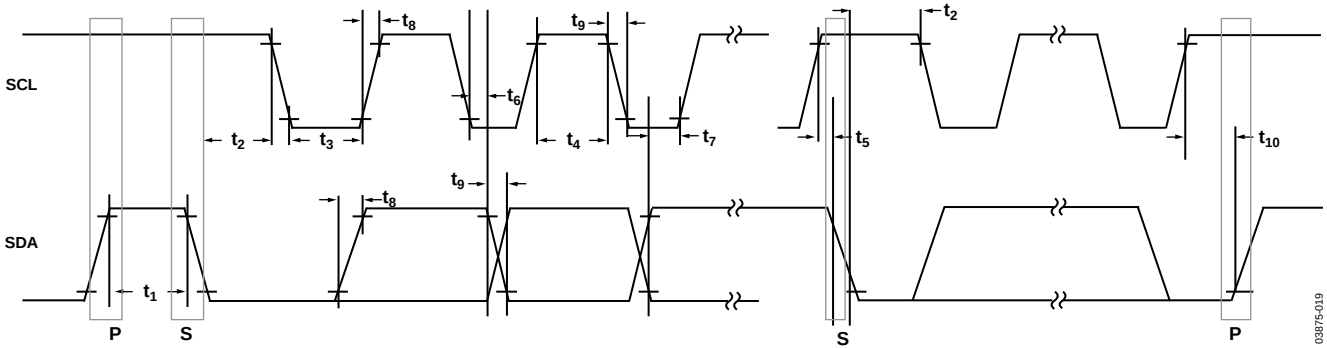
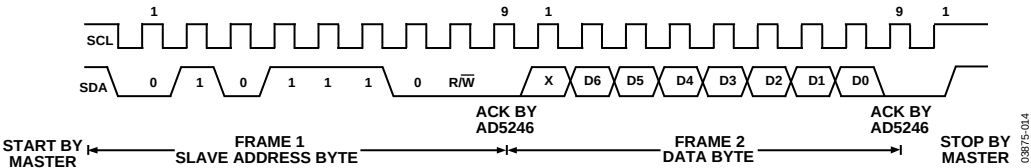
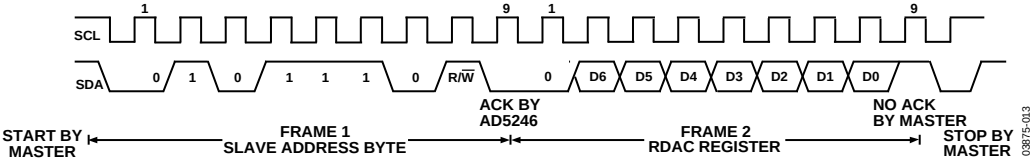

Figure 26. I²C Interface, Detailed Timing Diagram
Figure 27. Writing to the RDAC Register
Figure 28. Reading from the RDAC Register
³ See timing diagrams (Figure 26, Figure 27, and Figure 28) for locations of measured values.
1. The master initiates data transfer by establishing a START condition, which is when a high-to-low transition on the SDA line occurs while SCL is high (see Figure 27). The following byte is the slave address byte, which consists of the 7-bit slave address followed by an $R/\overline{W}$ bit (this bit determines whether data will be read from or written to the slave device).
3. In read mode, after acknowledgement of the slave address byte, data is received over the serial bus in sequences of nine clock pulses (a slight difference from the write mode where eight data bits are followed by an acknowledge bit). Similarly, the transitions on the SDA line must occur during the low period of SCL and remain stable during the high period of SCL (see Figure 28).
4. When all data bits have been read or written, a STOP condition is established by the master. A STOP condition is defined as a low-to-high transition on the SDA line while SCL is high. In write mode, the master pulls the SDA line high during the tenth clock pulse to establish a STOP condition (see Figure 27). In read mode, the master issues a No Acknowledge for the ninth clock pulse (that is, the SDA line remains high). The master then brings the SDA line low before the tenth clock pulse, which goes high to establish a STOP condition (see Figure 28).